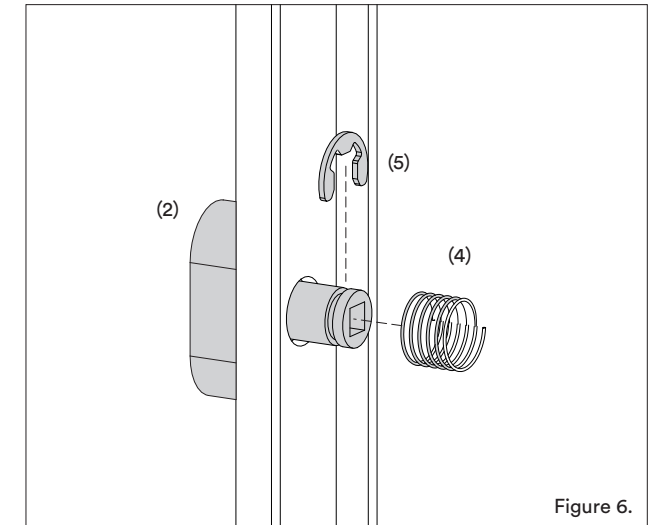

Figure 6.
- 4.2. Affix circlip to groove in snib neck on inside of backplate. (Figure 6)
5.5. Place the female sections in the opposite holes, lining them up with the male thread. (Figure 6)